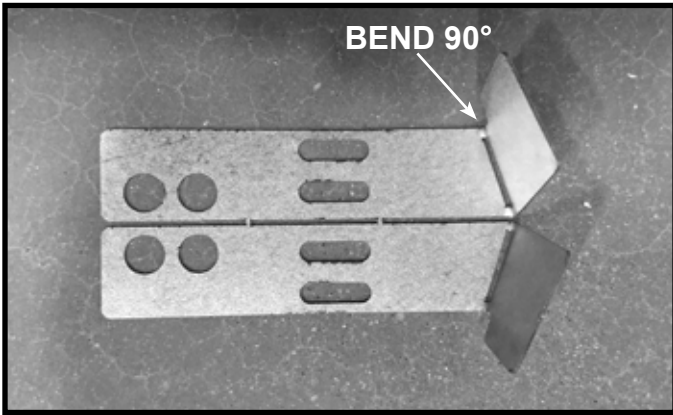

Figure 3. Glass Refractory Brackets Bent
5. Using a small, flat screwdriver, bend the ends of the refractory brackets to a 90 degree angle as shown in Figure 3. Break side refractory brackets apart by bending back and forth.